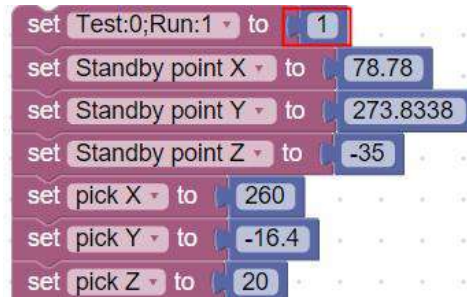

Figure 5.1 Modify 0 to 1
1. Modify 0 to 1 in the **Test:0; Run:1** module when running the picking demo as shown in Figure 5.1.